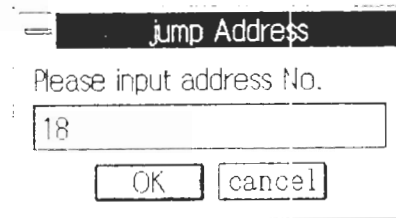

Figure 4-4
- (2) Message "Please input address No." is displayed. See Figure 4-4.
- (3) Input the desired address number, then click the "OK" button.
- (4) The address will be recalled.